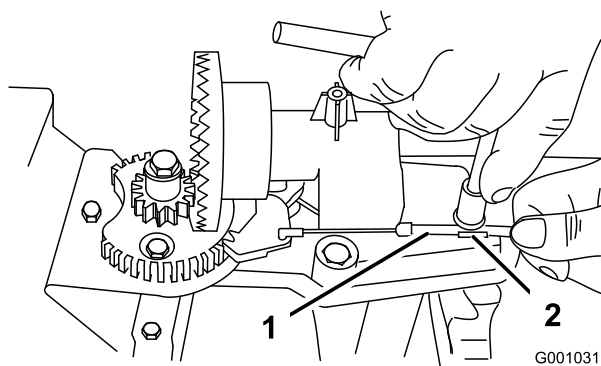
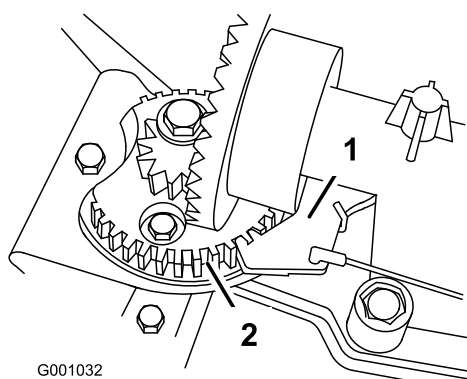

Figure 49
Figure 50
2. Loosen the bolt on the cable clamp (Figure 49).
3. Grasp the cable conduit and move it toward the front of the machine until the discharge chute latch fully engages the gear teeth (Figure 49 and Figure 50).
Note: The latch is spring loaded and will naturally move into the teeth of the gear (Figure 50).